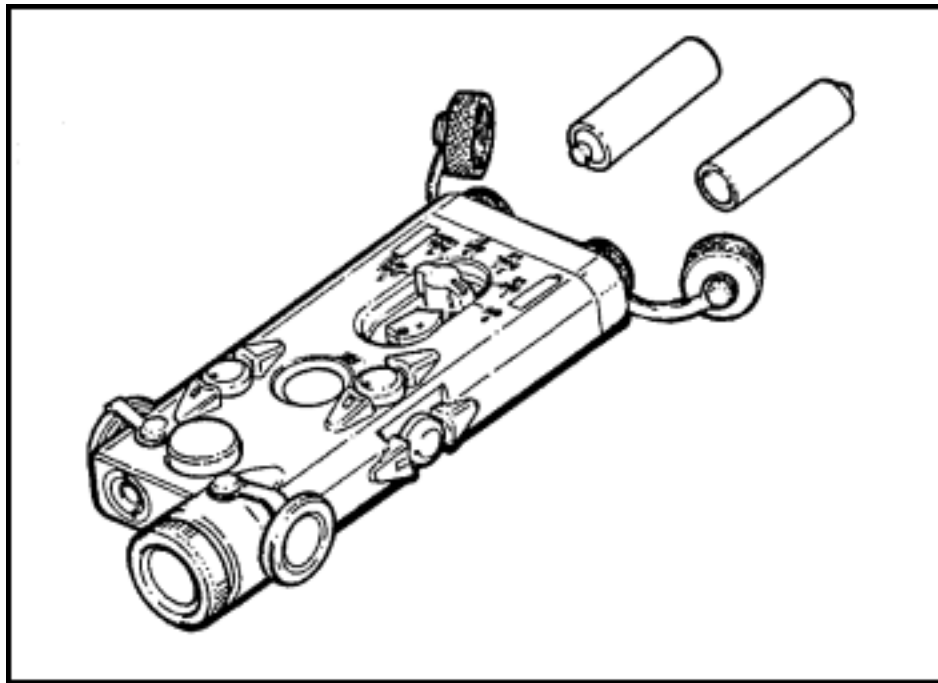

Figure F-7. AN/PEQ-2A battery installation.
- (1) *Battery Installation* (Figure F-7).